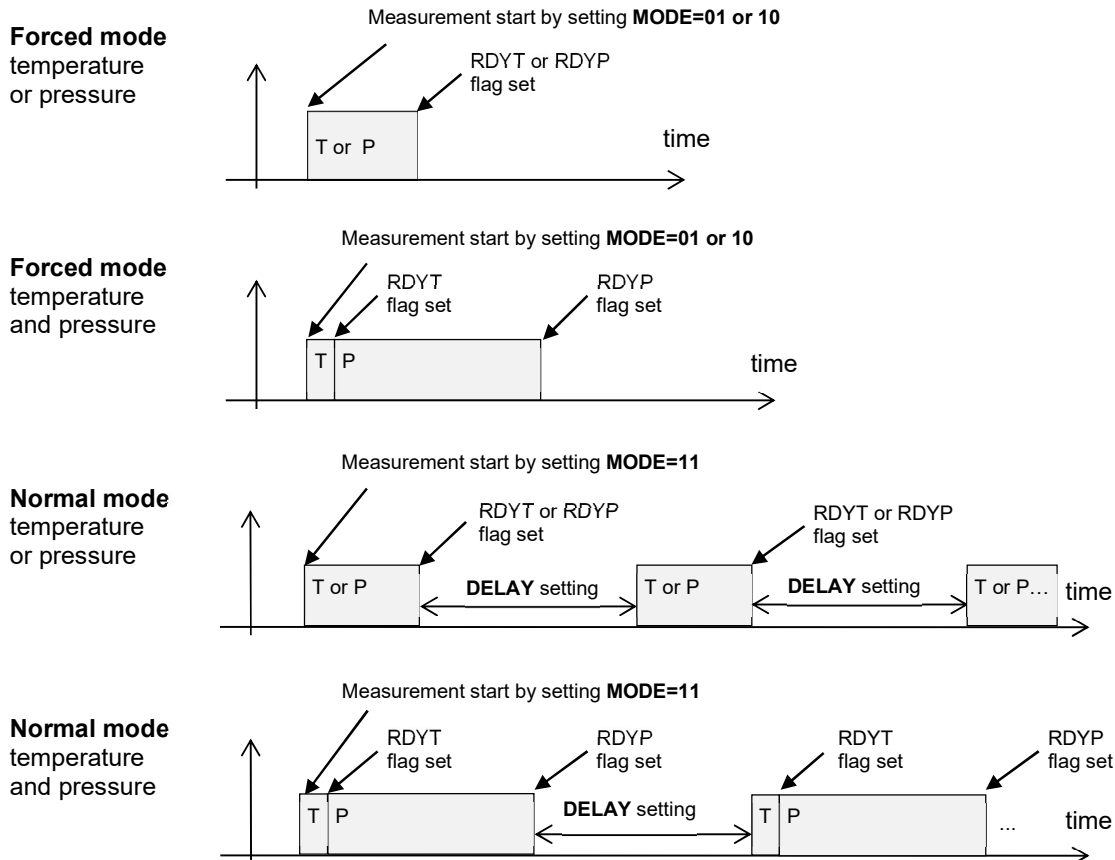

Figure 2. Forced and normal mode measurement and status register RDYT and RDYP flag update timing (T=temperature, P=pressure)
Selected measurements are performed during the measurement period. To minimize current consumption the device enters standby mode for the time between measurements during which only the internal clock oscillator is running. The standby mode time is defined by a DELAY bit setting in the Configuration register (EE/6E_{HEX}). There are eight delay settings available; 0.5ms, 62.5ms, 125ms, 250ms, 500ms, 1000ms, 2000ms and 4000ms. The normal mode measurement cycle is a sum of selected measurements' A/D conversion time and the delay setting. See figure 2 for normal mode measurement cycle illustration. The normal mode is recommended in applications where IIR filter is used like for filtering short-term sensor signal disturbances.
MAS6505 A/D conversion and result status can be monitored from Status register (F0_{HEX}) which contains RDYT and RDYP flags to indicate when there are unread temperature (T) and/or pressure (P) measurement results available in the pressure and temperature result registers. See figure 2 and table 7. The corresponding RDYx (x=T or P) flag is set (1) when a new measurement is ready for a read. Reading the measurement result will clear (0) the corresponding RDYx (x=T or P) flag.